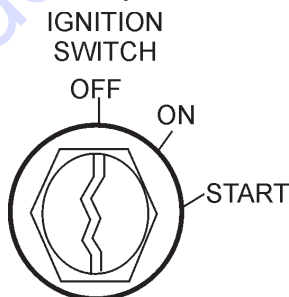

Figure 18. Ignition Switch
3. Insert the ignition key into the ignition switch (Figure 18), turn the key to the ON position, then to the START position, release the key when the engine starts.
3. Turn the ignition key (Figure 18) to the OFF position.